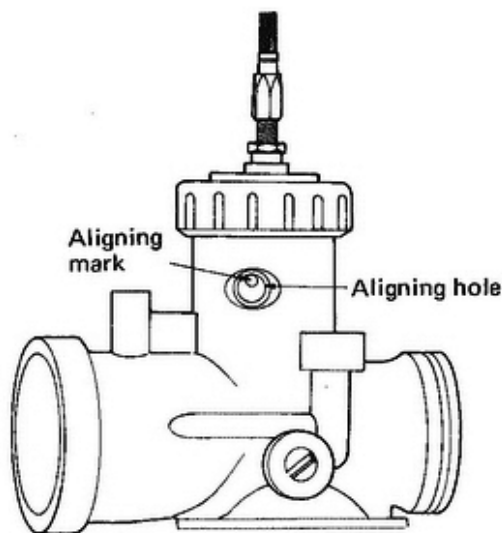

Fig. 7-5-5 Carburetor aligning marks
- 2) Wind up the throttle grip gradually and stop moving the grip just when an aligning mark on the side of throttle valve comes on upper end of the hole. Fig. 7-5-5.